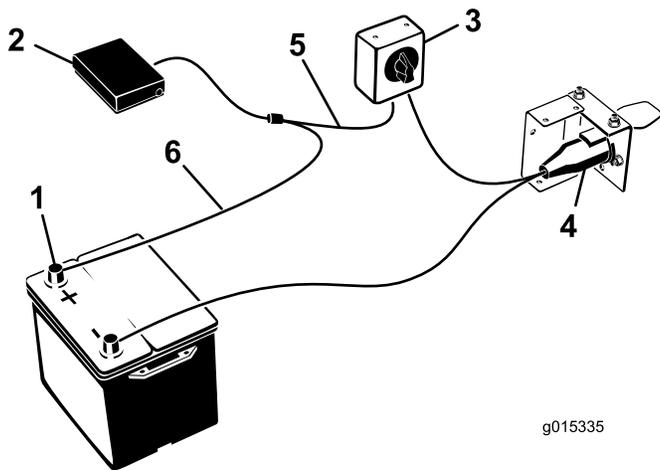

Figure 11
7. Mount the harness to the components (Figure 11) as follows:
8. Mount the load controller to the load controller bracket with the (2) screws and Tinnerman nuts included.